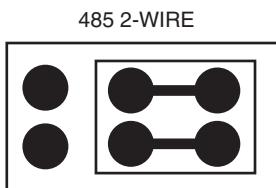

Fig. 12 — 485 2-Wire Jumper
- Verify the jumper is set on the right 2 pins. See Fig. 12.